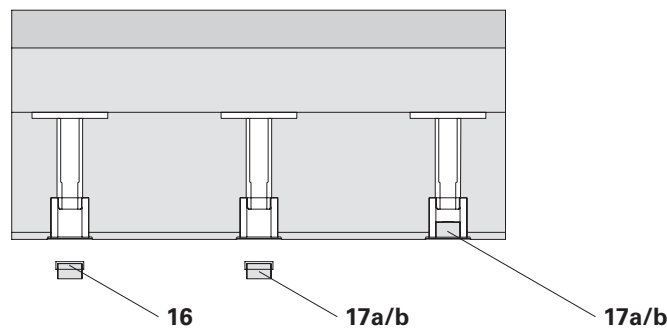

Fig. A5.01
5. Remove adhesive residue with a spatula (Fig. A5.01)